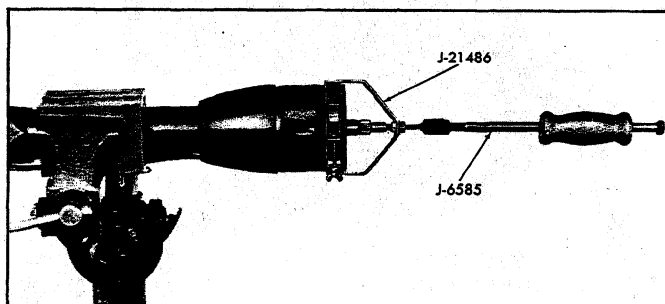

Fig. 38—Removing Turn Signal Cover Using Tools J-21486 and J-6585-1
7. Assemble slide hammer Tool J-6585-1 to turn signal cover remover Tool J-21486. Place cover remover over turn signal cover, tighten clamp, and pull cover from end of column with slide hammer (fig. 38).